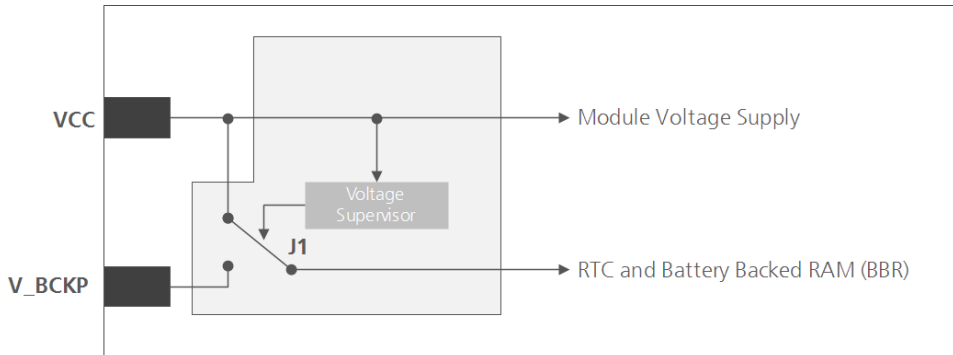

Figure 1: Backup battery and voltage (for exact pin orientation, see the LEA-M8S Data sheet [1] and the NEO/LEA-M8T Data sheet [2])
-  As long as the LEA-M8S and LEA-M8T modules are supplied via the **VCC**, the backup battery is disconnected from the RTC and the BBR to avoid unnecessary battery drain (see Figure 1). In this case, **VCC** supplies power to the RTC and BBR.